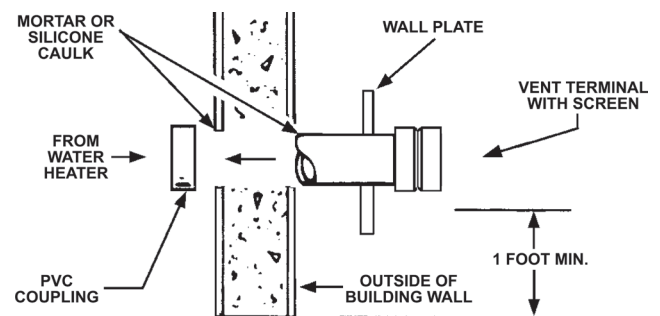
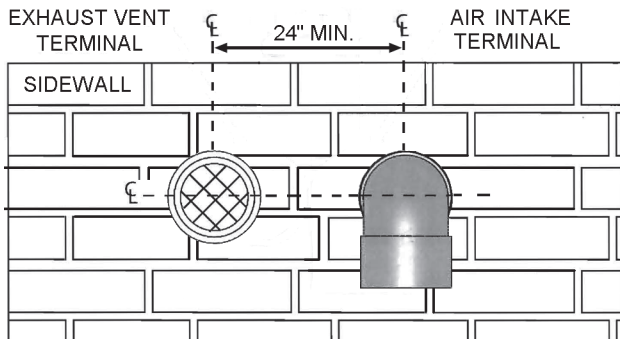

Figure 13: VENT TERMINATION
Figure 14A
2. Through-the-Wall Termination - horizontal vent termination directly through an outside wall, see Figure 13 on Page 27.
The first step is to determine where the vent pipe will terminate. See Figure 13, Figure 14A, and Figure 15. The vent may terminate through a sidewall as shown in Figure 13, Figure 14A and Figure 15 or through the roof as shown in Figure 18, Figure 19 and Figure 20.
Instructions on proper installation through a sidewall are provided in Figure 13, Figure 14A, and Figure 15.
Cut a length of pipe about 3.5 inches (8.9 cm) longer than the wall thickness at the opening. Glue the vent terminal to this section of pipe. Slide the wall plate over the pipe to stop against the vent terminal. Place a bead of caulking (not supplied) around the gap between the pipe and cover plate. Apply enough to fill some of the gap between the pipe and wall. Place some of the caulking on the back of the plate to hold it against the wall after installation. If the vent pipe is installed up to the wall, with a coupling on the end against the wall opening, the pipe with the vent terminal can be prepared for gluing before inserting through the wall. Slide the pipe through the wall and insert into the coupling on the other side of the wall, making sure that the vent terminal ends up pointed in the correct position, see Figure 13.
6. If the air intake pipe is installed up to the wall, with a coupling on the end against the wall opening, the pipe with the air intake terminal can be prepared for gluing before inserting through the wall. Slide the pipe through the wall and insert into coupling on the other side of the wall, making sure that the air intake terminal ends up pointed in the correct position (Figure 14A and Figure 15).